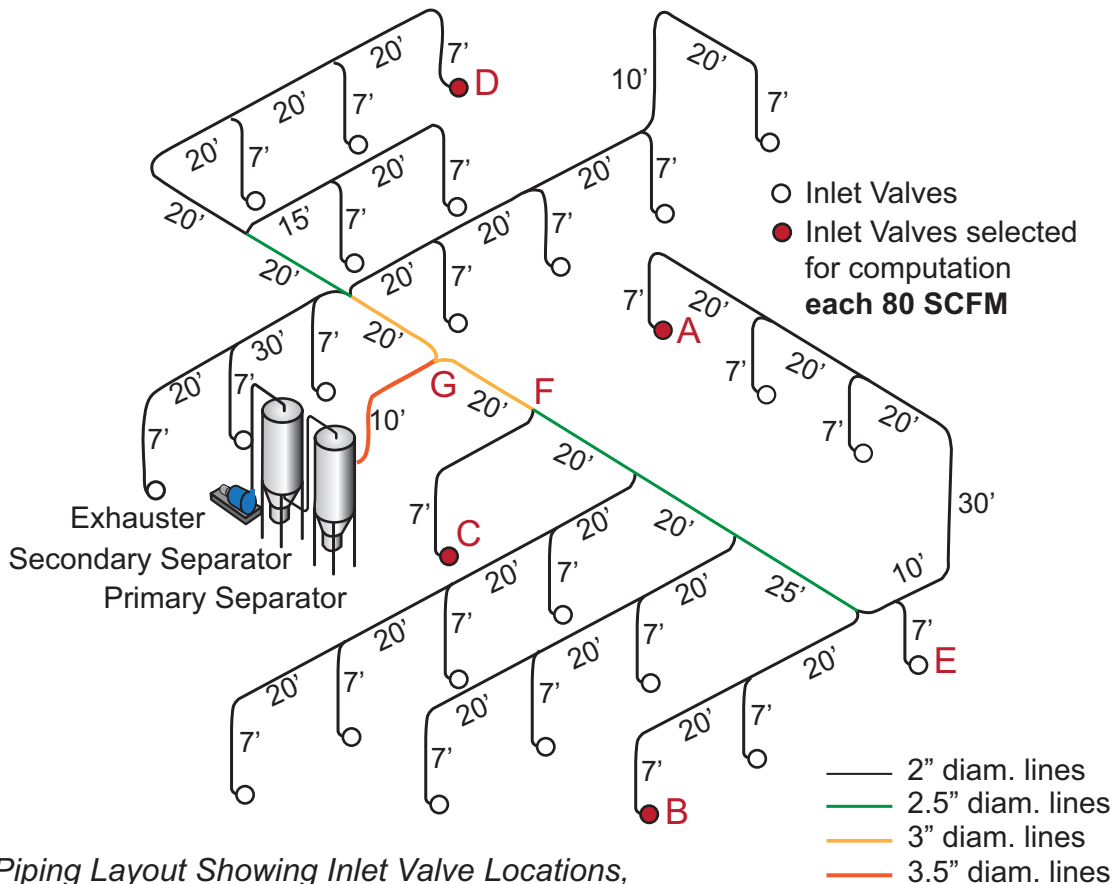

Figure 3: Piping Layout Showing Inlet Valve Locations, System Components and Dimensions
Looking at Figure 3 at point (A), 80 SCFM enters the system and flows to point (E). The total equivalent piping length from point (A) to point (E) is: